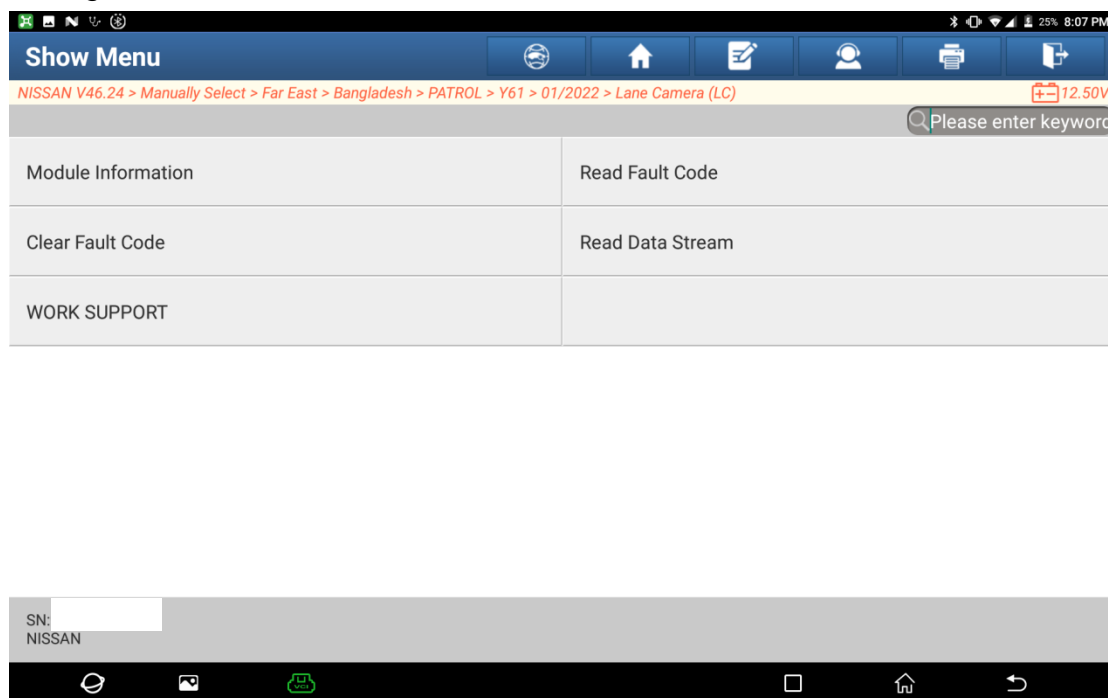

Figure 4
- Click [ENTER] to display the menu interface for [LC (Lane Camera)]. See Figure 4.